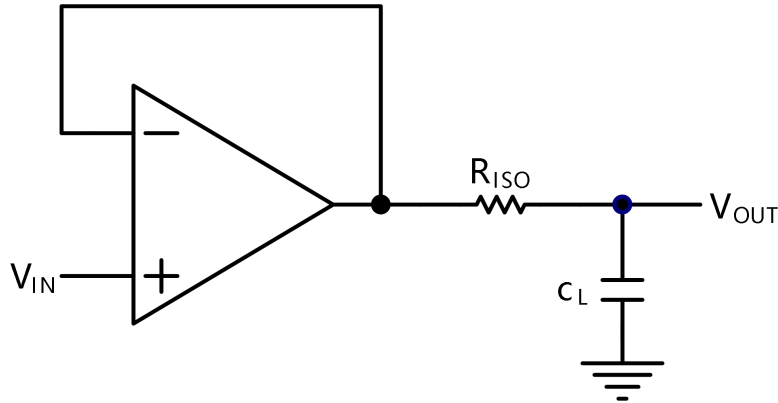
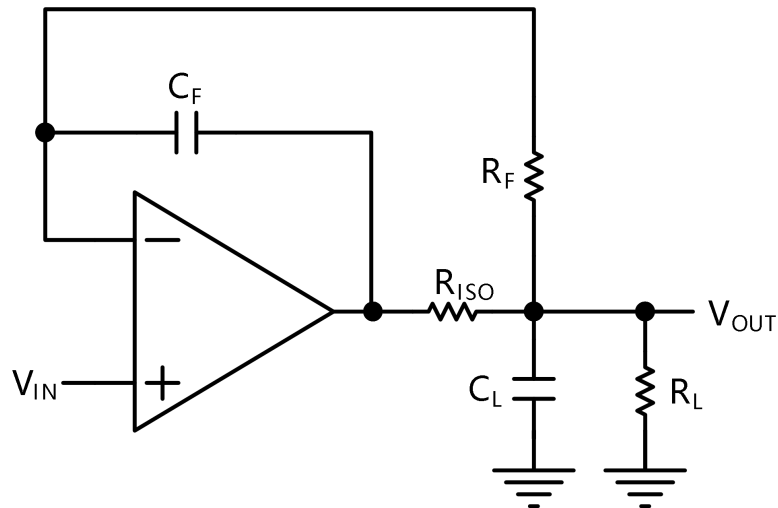

Figure 2. Indirectly Driving a Capacitive Load Using Isolation Resistor
Figure 3. Indirectly Driving a Capacitive Load with DC Accuracy
The CD863x family is optimized for bandwidth and speed, not for driving capacitive loads. Output capacitance will create a pole in the amplifier's feedback path, leading to excessive peaking and potential oscillation. If dealing with load capacitance is a requirement of the application, the two strategies to consider are (1) using a small resistor in series with the amplifier's output and the load capacitance and (2) reducing the bandwidth of the amplifier's feedback loop by increasing the overall noise gain. Figure 2. shows a unity gain follower using the series resistor strategy. The resistor isolates the output from the capacitance and, more importantly, creates a zero in the feedback path that compensates for the pole created by the output capacitance.
The circuit in Figure 3 is an improvement to the one in Figure 2. R_F provides the DC accuracy by feed-forward the V_{IN} to R_L . C_F and R_{ISO} serve to counteract the loss of phase margin by feeding the high frequency component of the output signal back to the amplifier's inverting input, thereby preserving the phase margin in the overall feedback loop. Capacitive drive can be increased by increasing the value of C_F . This in turn will slow down the pulse response.